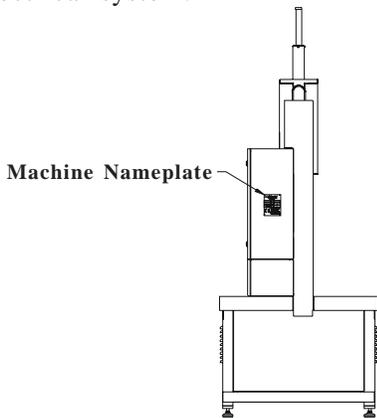

Figure 3.3: Check the voltage on the Machine Nameplate.
1. Check the voltage on the Machine Nameplate, located on the rear of the machine's Main Electrical Cabinet (see Figure 3.3). **MAKE SURE** the machine's incoming shop voltage is the same as the voltage the machine has been wired for. If the voltages do not match, **STOP!** Call your Haeger Distributor for instructions on how to proceed. Their telephone number is listed on the machine's Basic Data Sheet in the Introduction Section of this manual.